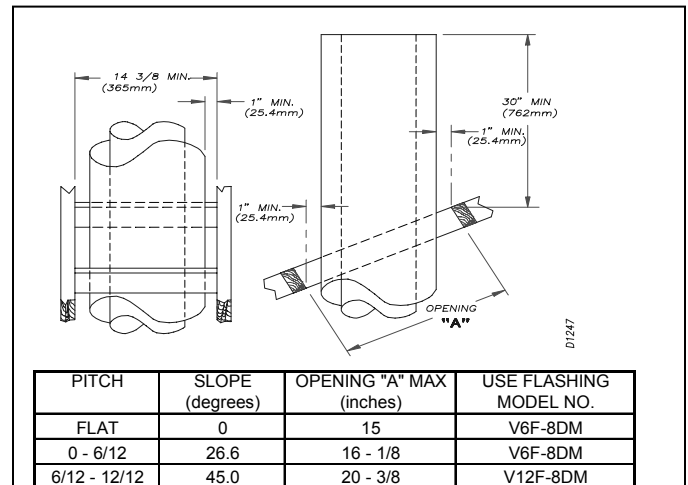

Figure 13
STEP 3: Use the roof-opening chart (figure 13) below to determine the correct opening length and flashing required.